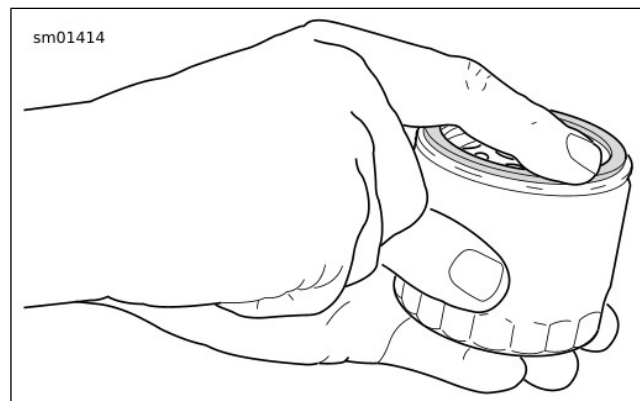

Figure 45. Lubricating New Oil Filter Gasket
9. Figure 45 Install **new** oil filter.
10. Install **new** O-ring (1).
11. Install magnetic oil drain plug (5). Tighten.